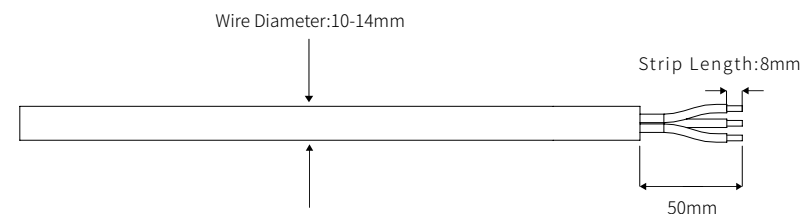

Figure 4-17
② According to the table above, select an appropriate cable, peel the insulation sleeve of AC cable off for 50mm, and peel off the end of L / PE / N wires for 8mm, as shown in Figure 4-17: